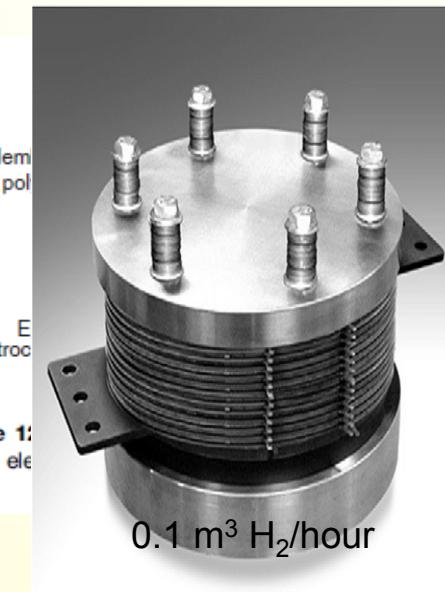

Figure 1:
Figure 1: Alkaline-based component of the system, consisting of an alkali-based electrolyzer (1), direct current (dc) power supply (2), end-plates (3), and gas separators (4).